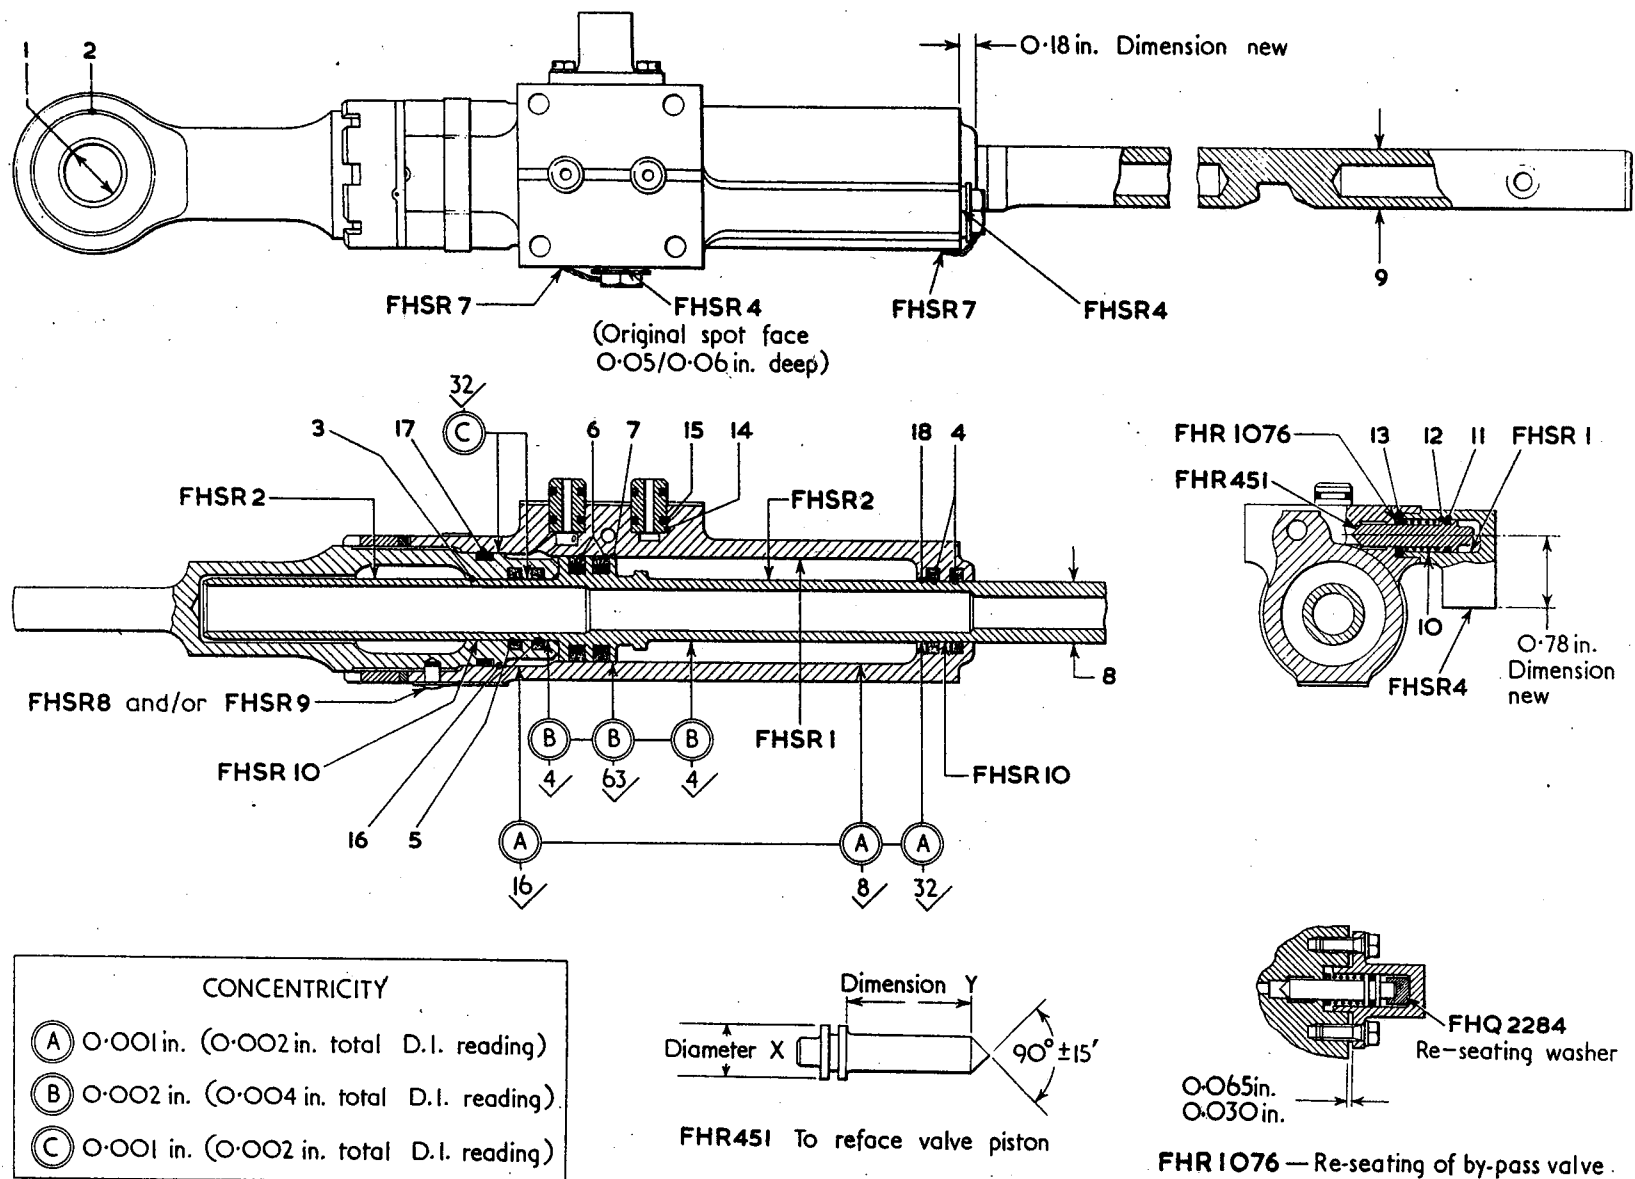

Fig. 1. Key diagram
1. The valve piston conical surface may be refaced to a finish of 32 micro-inches, or better. Concentricity to diameter X (Fig. 1) must be maintained at 0.001 in. (0.002 in. total D.I. reading) and after refacing dimension Y must not be less than 0.865 in. On assembly lightly seat the piston in the jack body by the method detailed in A.P.105D-1303-1. Where the clearance between the housing and the jack body (Fig. 1) is below the minimum requirement, repair scheme FHR 1076 (para. 2) must be incorporated.
2. When the assembly clearance between housing and jack body, with re-seating washer FHQ 2284 in position and the housing securing bolts screwed down finger tight only, is below the minimum requirement (A.P.105D-1303-1), this scheme allows a lower tolerance as indicated (Fig. 1). A further special washer, FHSO 101, which is 0.050-0.055 in thick, is introduced and may be used, if necessary, to meet testing requirements. (See A.P.105D-1303-1 - By-pass valve alternative washers and springs).